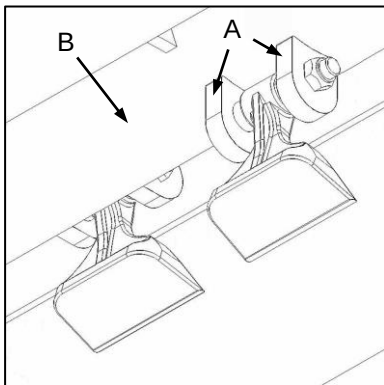

Fig. 7
- ✓ Check blade mounting lugs (Fig. 7-A) for signs of wear, distortion, elongation or fractures. Severe wear or damage to the blade mountings may necessitate replacement of the complete rotor (Fig. 7-B).
- ✓ Gaan lemmonteringskloue (Fig. 7-A) na vir tekens van slytasie, verwringing, rekking of krake. Ernstige slytasie of beskadiging van die lemmonteringstukke mag vervanging van die hele rotor noodsaak (Fig. 7-B).